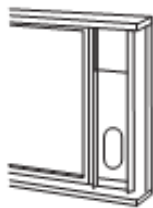

Fig. 14
3. Cut the foam seal (adhesive type) to the proper length and attach it on the top of the window. Shown as in Fig.14.